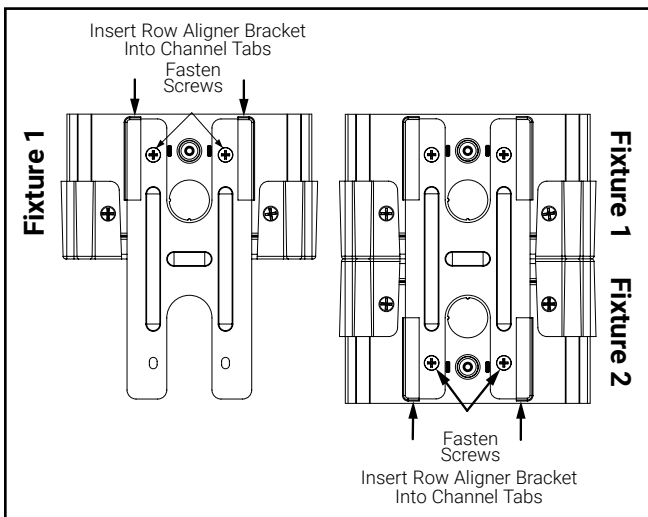

Figure 11.
- Flip luminaire upside down. Insert row aligner bracket into tabs on bottom of the channel. Fasten screws (Figure 11).
- Attach second luminaire to row aligner bracket and fasten screws (Figure 11).